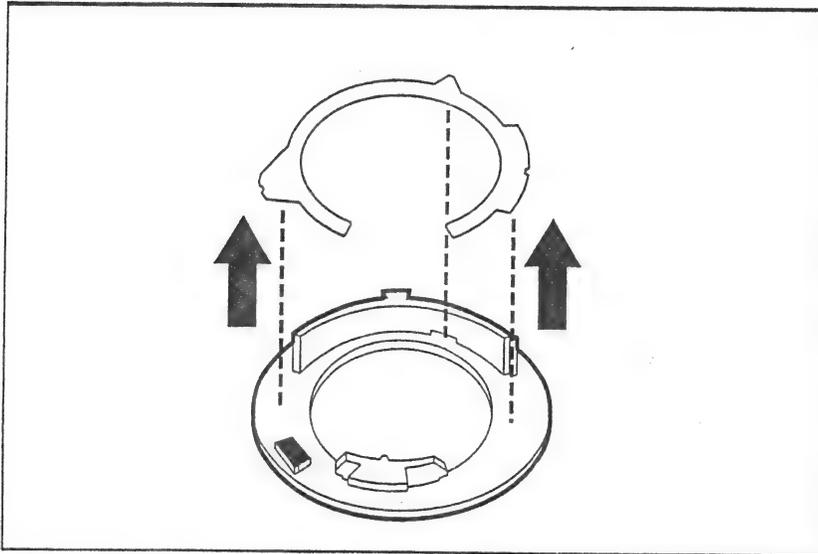

Figure 2-25. Removing the Retaining Ring
4. Remove the retaining ring (Figure 2-25). (If the copper gasket comes off with the retaining ring, return it its original position.)